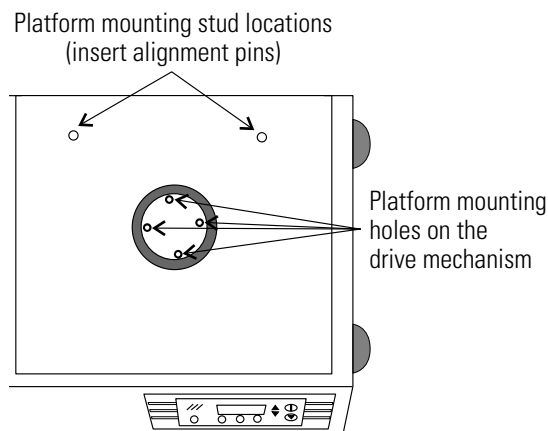

Figure 1-9. Mounting Holes and Pin
1. Insert the two 1/4-20 alignment pins into the two mounting holes identified in Figures 1-9 and 1-10.